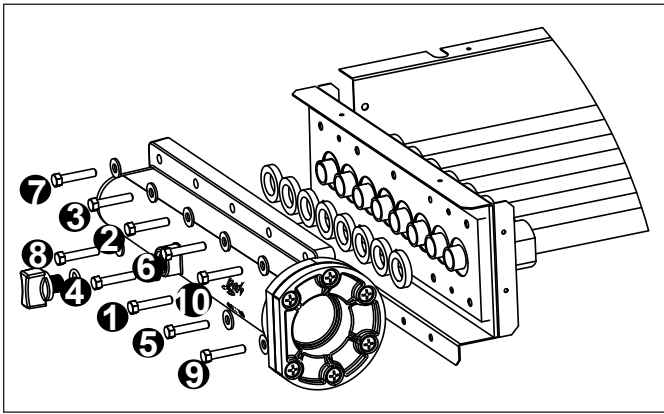

Figure 11 Header Bolt Tightening Sequence
16. Use a torque wrench to tighten the bolts on each header to 4 ft-lbs. The bolts must be tightened in the sequence indicated in Figure 11.